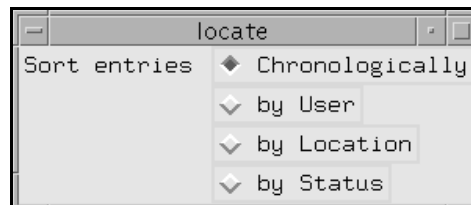

Figure 72. Locate Window (status Program)
- To sort the entries or find a particular entry in the Status window, click on **Find Entry**. The locate window appears (see Figure 72). You can sort the list chronologically, by user, by location, or by status. Additionally, if you click on the label of one of the sort types, a pull-down menu is displayed so that you can further refine the sort. For example, if